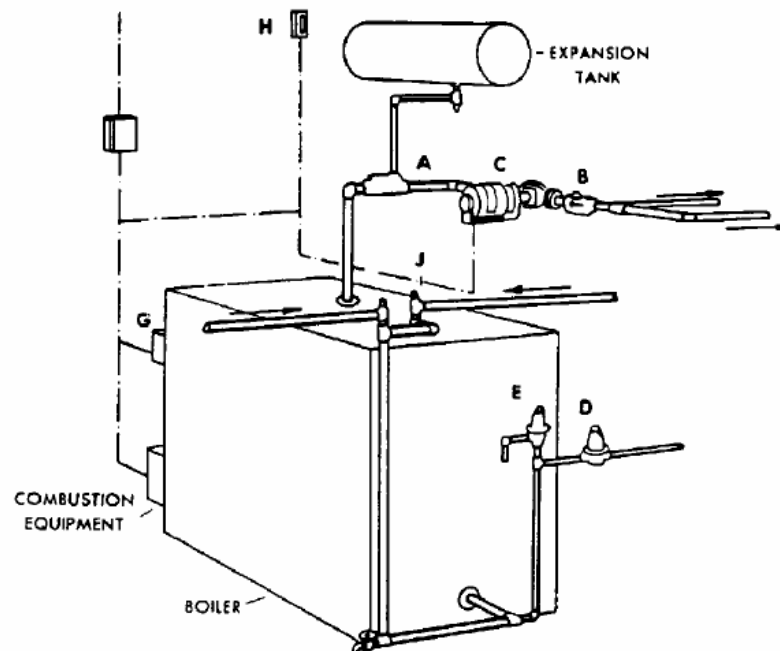

Figure 1. Heat Supplied by Boiler.
A variety of heat sources and heat radiation are used for differing conditions of application. The source of heat may be from a boiler where the combustion of fuel in many forms provides the heat or from a converter wherein the heat of steam is transferred to the water. Both of these systems are shown in Figures 1 and 2.
As described in Figures 1 and 2, the main water circuit is from the boiler or converter, through the air separator (A), and flow control valve (B), to the radiation, and back to the boiler or converter.